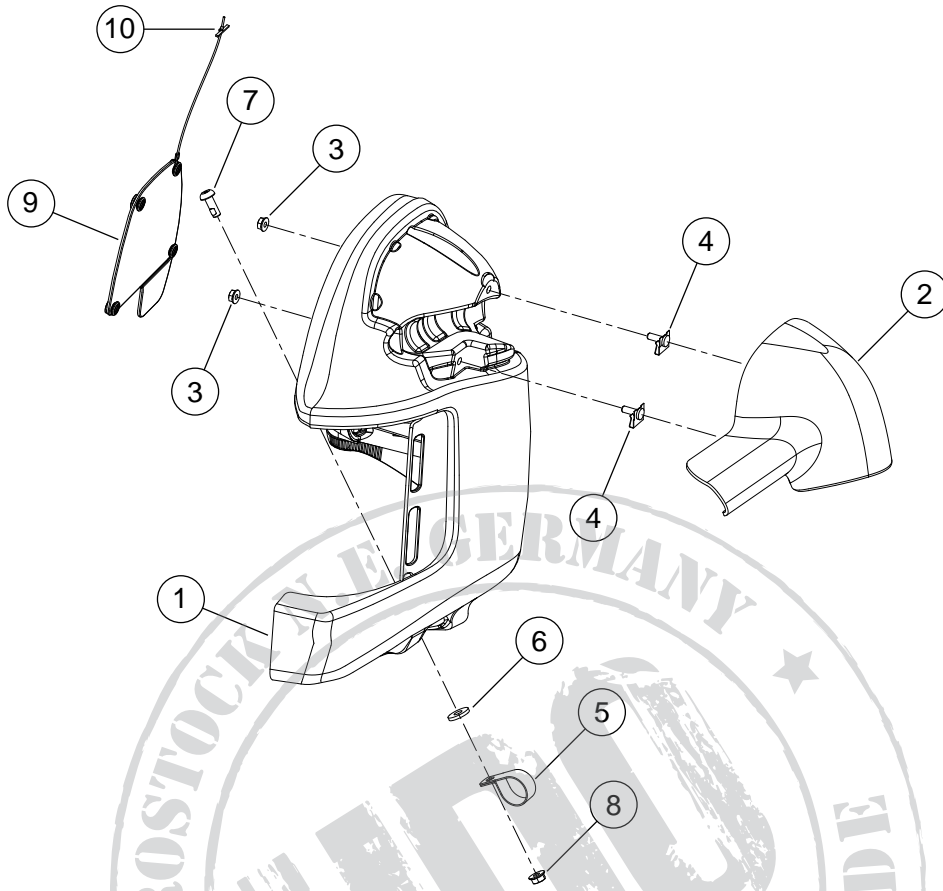

Figure 1. Service Parts: Vented Fairing Lower Kit
See Figure 1 and Table 1.
1. See Figure 1. From the kit, obtain the left side fairing lower (1), left side fairing lower cap (2), two flange locking nuts (3) and two stud clips (4). Place fairing lower cap in front of the left side engine guard and left side fairing lower behind engine fairing guard. With both pieces in place around engine guard, install the two flange locking nuts onto the studs clips and hand tighten. Repeat procedure for right side fairing lower.
2. Secure bottom of fairing lower to lower engine guard with round clamp (5) from hardware kit. Position clamp around engine guard with tabs toward rear of vehicle and flat side of clamp against fairing lower and with the rubber washer (6) between clamp and engine guard. Place Torx pan screw (7) through fairing lower, rubber washer and clamp. Secure assembly with flanged locknut (8). Repeat for right side fairing lower. Tighten to 144 **in-lbs** (16.3 Nm).
3. Tighten all left and right side upper flange locking nuts (3) to 72 **in-lbs** (8.1 Nm).
4. Install left side door assembly glovebox (9) to fairing lower using the attachment cord (10). Insert glovebox door into fairing lower. Repeat for right side fairing lower.